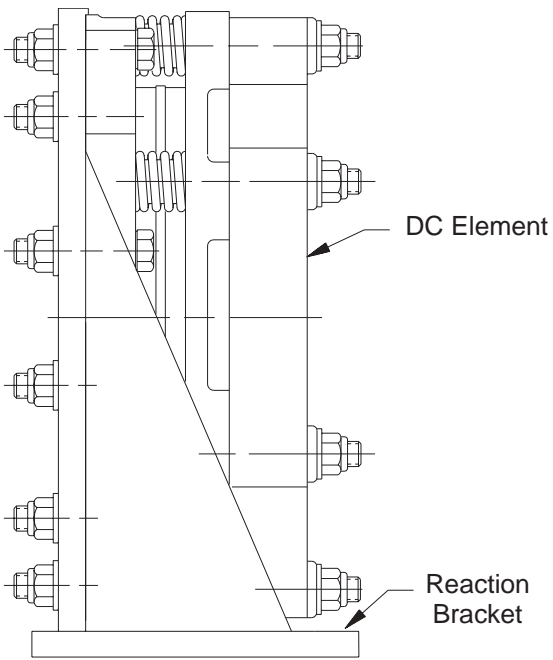

Fig. 2
- 2.1.1 Figure 2 illustrates a typical DC brake application. The gear is attached to the shaft which is to be stopped. The element is attached to a rigid reaction bracket or the machine frame.